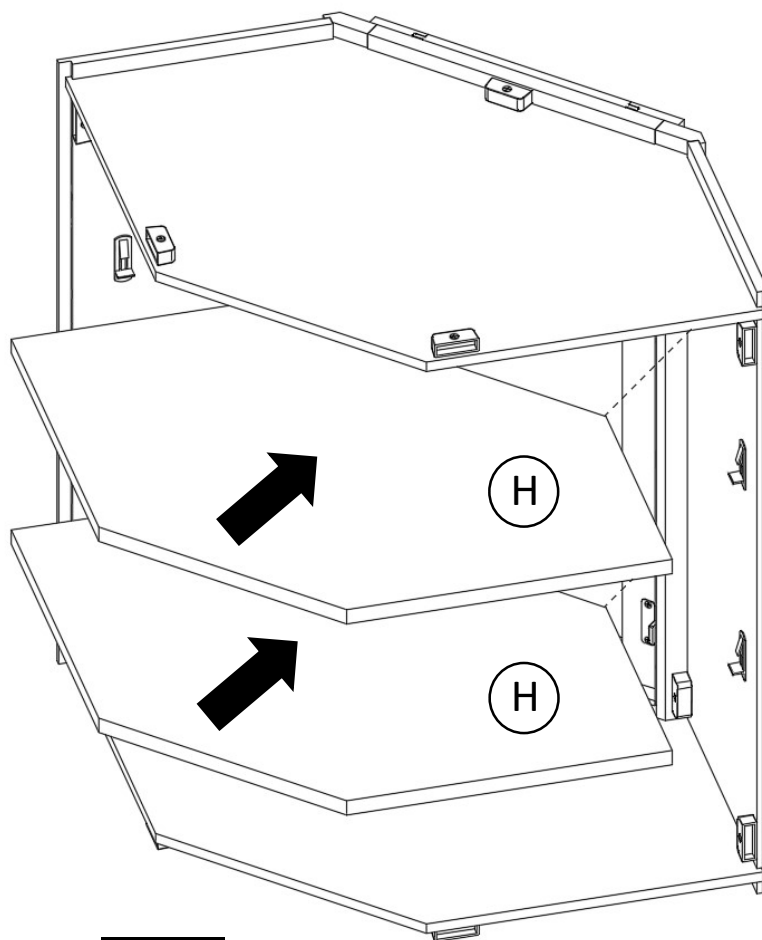

Figure 4
Install the shelves (H) onto the previously installed shelf clips. (Figure 4)